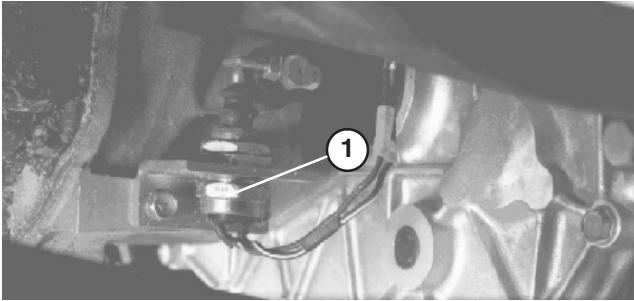

Figure 65
7. Recheck the clutch safety switch adjustment (Fig. 65). The engine must not crank unless clutch pedal is 1.25" ±.12" from floor. If an adjustment is required, loosen switch jam nuts and adjust up or down.